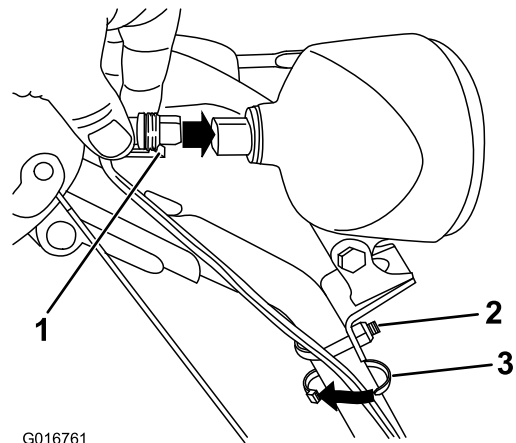

Figure 18
1. Insert the wire connector on the loose end of the wire straight into the back of the headlight until it is securely in place (Figure 18).
**Note:** Ensure that the plastic clip on the wire connector is on the bottom (Figure 18).
2. Secure a cable tie (from the loose parts bag) around the wire and the handle about an inch (2.5 cm) below the U-bolt (Figure 18).